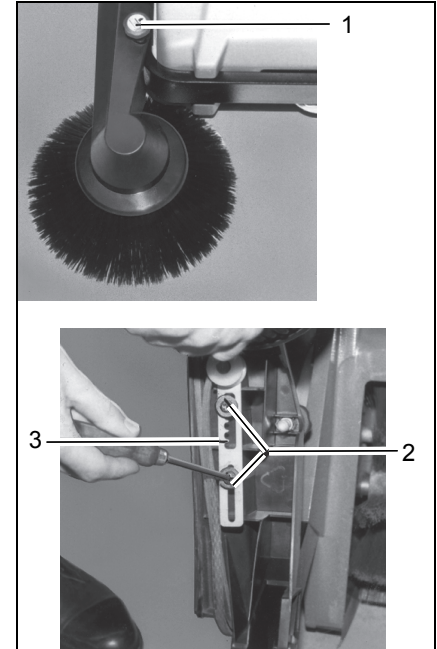

Fig. 6
3. Rotate the adjusting wheel (Fig. 6/1) until the side broom touches the ground with about 2/3 of its circumference.
2. Loosen bolts (Fig. 6/2), should come out approx. 5 mm (0.2").
3. Lift roller holder (Fig. 6/3) from slot in plastic rib.